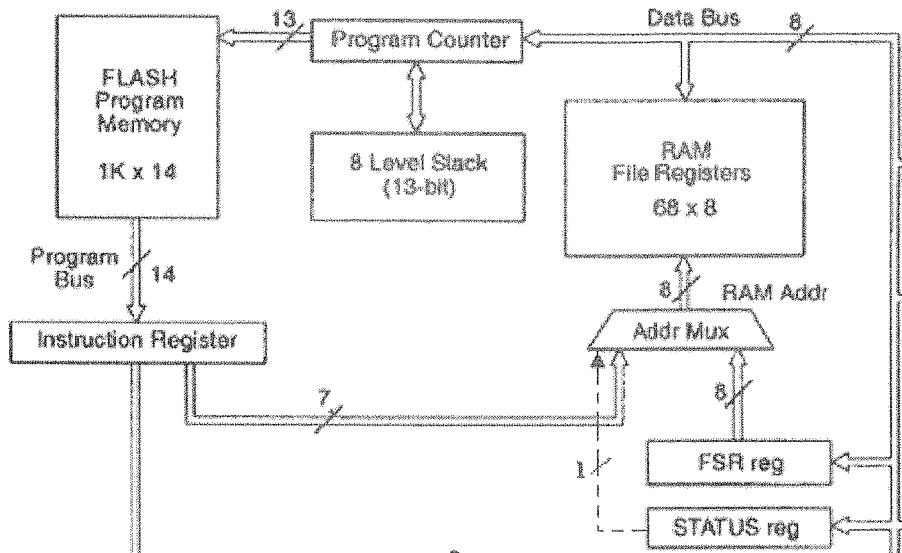

Fig:Q1
- Q1 The following figure shows part of the PIC1684A internal architecture. Study the Fig: Q1 and answer the following questions.